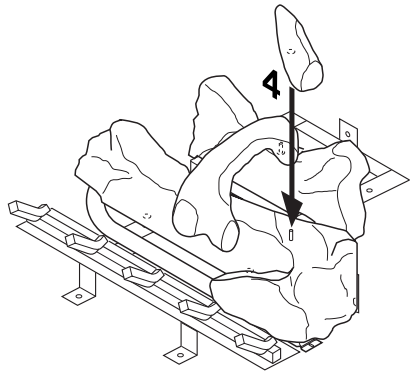

Figure 44 - Installing Log No. 4
4. Place log #4 (right log) onto pin on right side of front log as shown in Figure 44.